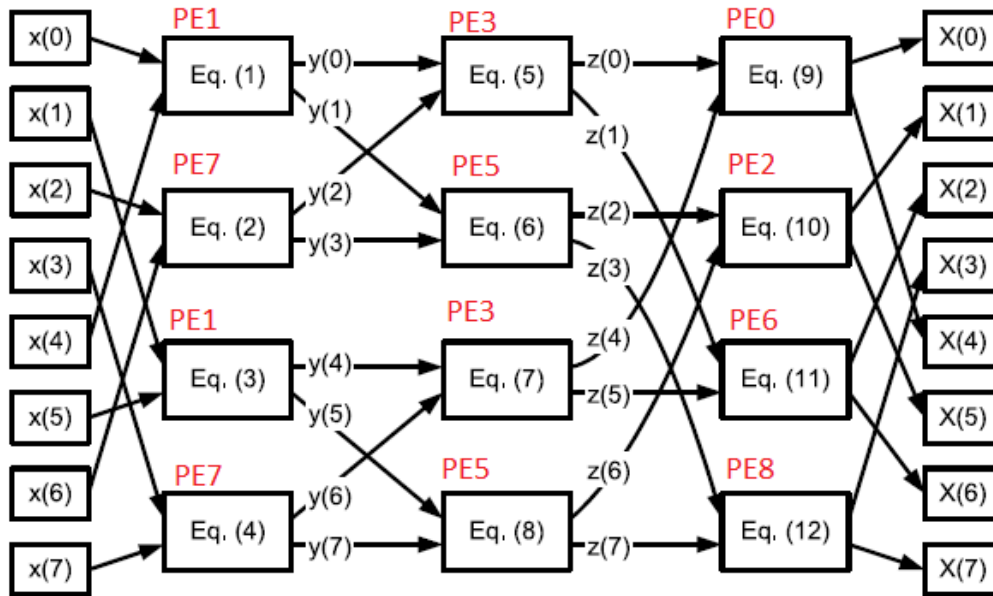

Figure 2: DFG for FFT Computation
the design, I decide that each PE should have certain output destinations, i.e. even if a PE is multiple used, the output destination is still the same, which is shown in Figure 2. We could find that in Figure 2, PE1 is transmitting its outputs to PE3 and PE5 even if it has different kind of inputs.
To support my design that all PEs has certain output destinations, we have to divide the 8-bit FFT computations into four 4-bit FFT computation which is so called “butterfly” computation. For example, Eq.(1), Eq.(2) and Eq.(5), Eq.(6) is a butterfly computation. I choose to multiply use PE1, PE7, PE3 and PE5 as it is shown in Figure 2. For better performance and avoiding packets collision, I reordered the inputs into $x(0)$, $x(2)$, $x(4)$, $x(6)$, $x(1)$, $x(3)$, $x(5)$ and $x(7)$ so that each computation could get all of its input as soon as possible.